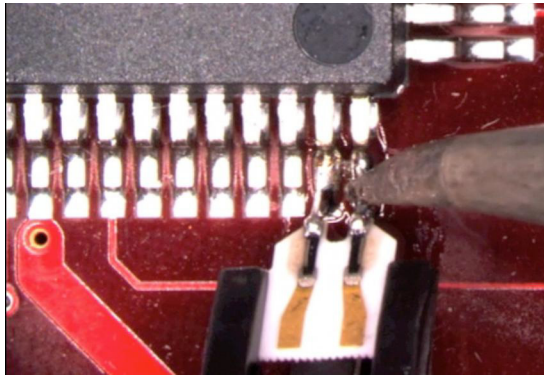

Figure 28 Soldering the ZIF Tip
- 5 Position the ZIF tip with the gold traces facing up as shown in **Figure 28** on page 50 and carefully re-flow the solder. This orients the tip so that it will properly mate with the probe head.